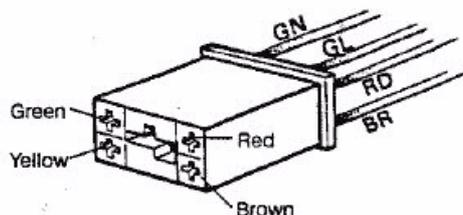

Figure 2. Fit the wires into the connector.
7. Strip the ends of the wires in the harness and fit the four (4) pins. For proper connection, use crimping pliers, P/N 88 18 999. Fit the wires into the 4-pin connector, P/N 91 23 555, as shown in Figure 2.